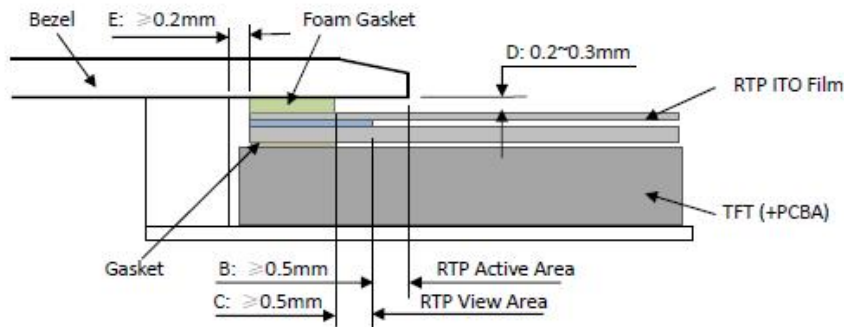

Figure 4
- It should bezel touching the RTP Active Area (A.A.) to prevent abnormal touch.It should left gab D=0.2~0.3mm in between. (Figure 4)
- Outer bezel design should take care about the area outside the A.A. Those areas contain circuit wires which is having different thickness. Touching those areas could de-form the ITO film. As a result bezel the ITO film be damaged and shorten its lifetime. It is suggested to protect those areas with gasket (between the bezel and RTP).The suggested figures are $B \geq 0.50\text{mm}$; $C \geq 0.50\text{mm}$. (Figure 4)
- The bezel side wall should keep space $E = 0.2 \sim 0.3\text{mm}$ from the RTP. (Figure 4)
- 为避免面框直接压在动作区(A. A.)上造成误动作，面框与电阻触摸屏(RTP)之间应留有一定的空隙 $D=0.2 \sim 0.3\text{mm}$ 之间。(附图 4)
- 设计面框时，要注意用面框保护触摸屏四周的非保证操作区域，因为布线区域在此处形成一台阶，在此区域附近操作时 ITO Film 变形较大，容易导致 ITO 损坏而降低寿命。为保护 RTP 和避免误操作，在 RTP 与面框之间垫缓冲物(Gasket)，我们建议设计面框应覆盖动作区的边缘，面框边缘到 V. A. 区的距离 $B \geq 0.50\text{mm}$ ；垫圈内边缘到 V. A. 区的距离 $C \geq 0.50\text{mm}$ 。(附图 4)
- 在设计面框与 RTP 组装时，应考虑到面框内侧与 RTP 外侧的间距 $E \geq 0.2\text{mm}$ 。(附图 4)